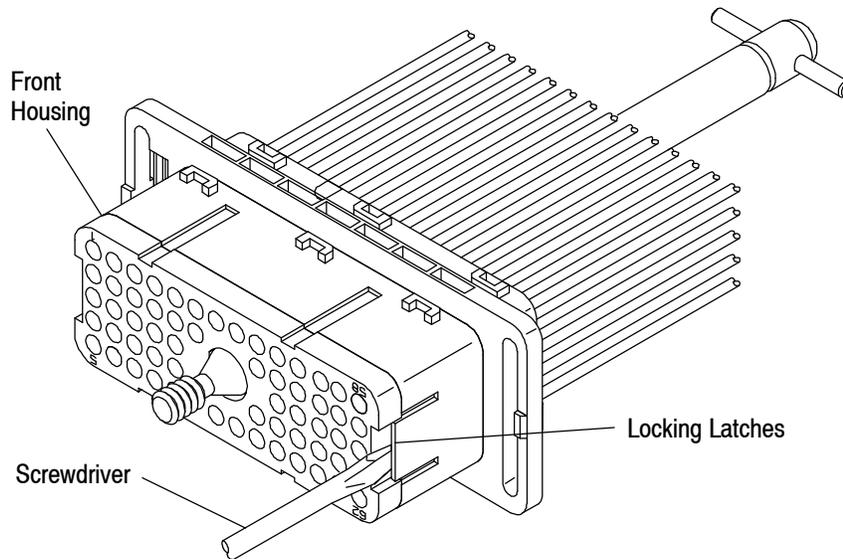

Figure 7
1. Using a small screwdriver, deflect the housing latches on one end to disengage the latch and move the front housing slightly forward. Repeat on the other end of the connector. Slide the front housing forward until the secondary latches engage. With the housings in this position, the contacts can be removed. See Figure 7.